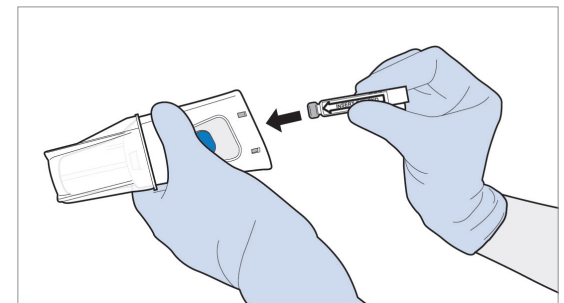

Figure 50 Insert VOCERYQ Cartridge into Sterile Array
3. Insert the VOCERYQ Cartridge into the center of the Array and firmly push until you hear an audible »click« to indicate that the VOCERYQ Cartridge is fully inserted (see Figures 50 and 51).